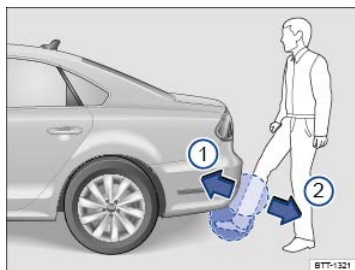

Fig. 34 Opening the sensor-controlled trunk lid (Easy Open).
When a valid vehicle key is within range of the trunk lid, the trunk lid can be unlocked and opened by moving your foot within the sensor's range ⇒ Fig. 34 below the rear bumper.
- Quickly move your foot and shin as close to the bumper as possible. Your shin must be in the upper part of the sensor's range and your foot in the lower part ⇒ Fig. 34 ①.
- Quickly move your shin out of range ⇒ Fig. 34 ②. The trunk lid opens automatically.